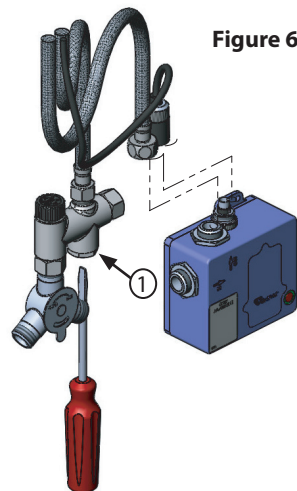

Figure 6
If the sensor faucet is in need of repair and must be serviced and the blue control module removed, the by-pass valve must be closed with a flat head screwdriver by accessing the shut-off screw on the bottom-side of the manifold (fig. 6 ①). The controller can then be removed for servicing and the faucet can continue to be used by changing it to the manual mode as described above.